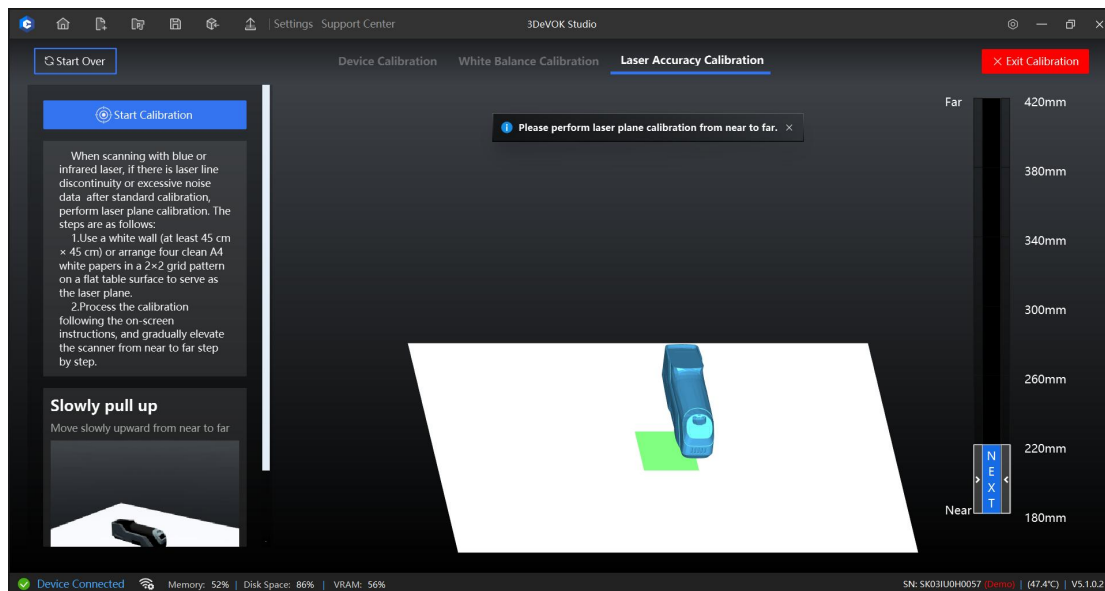

Figure 6-5 Laser Accuracy Calibration
2. Click the "Start Calibration" button on the top-left or the  button on scanner's touchscreen, and process the calibration following the on-screen instructions, as shown in Figure 6-5.